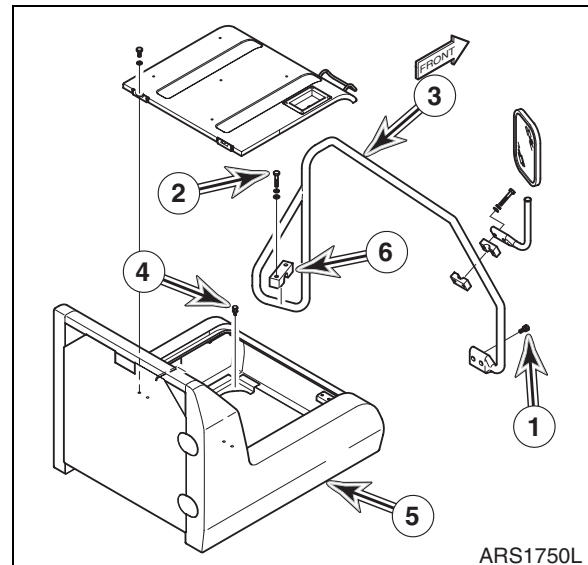

Figure 12
5. Install four bolts (4, Figure 12) and cover (5) on frame.